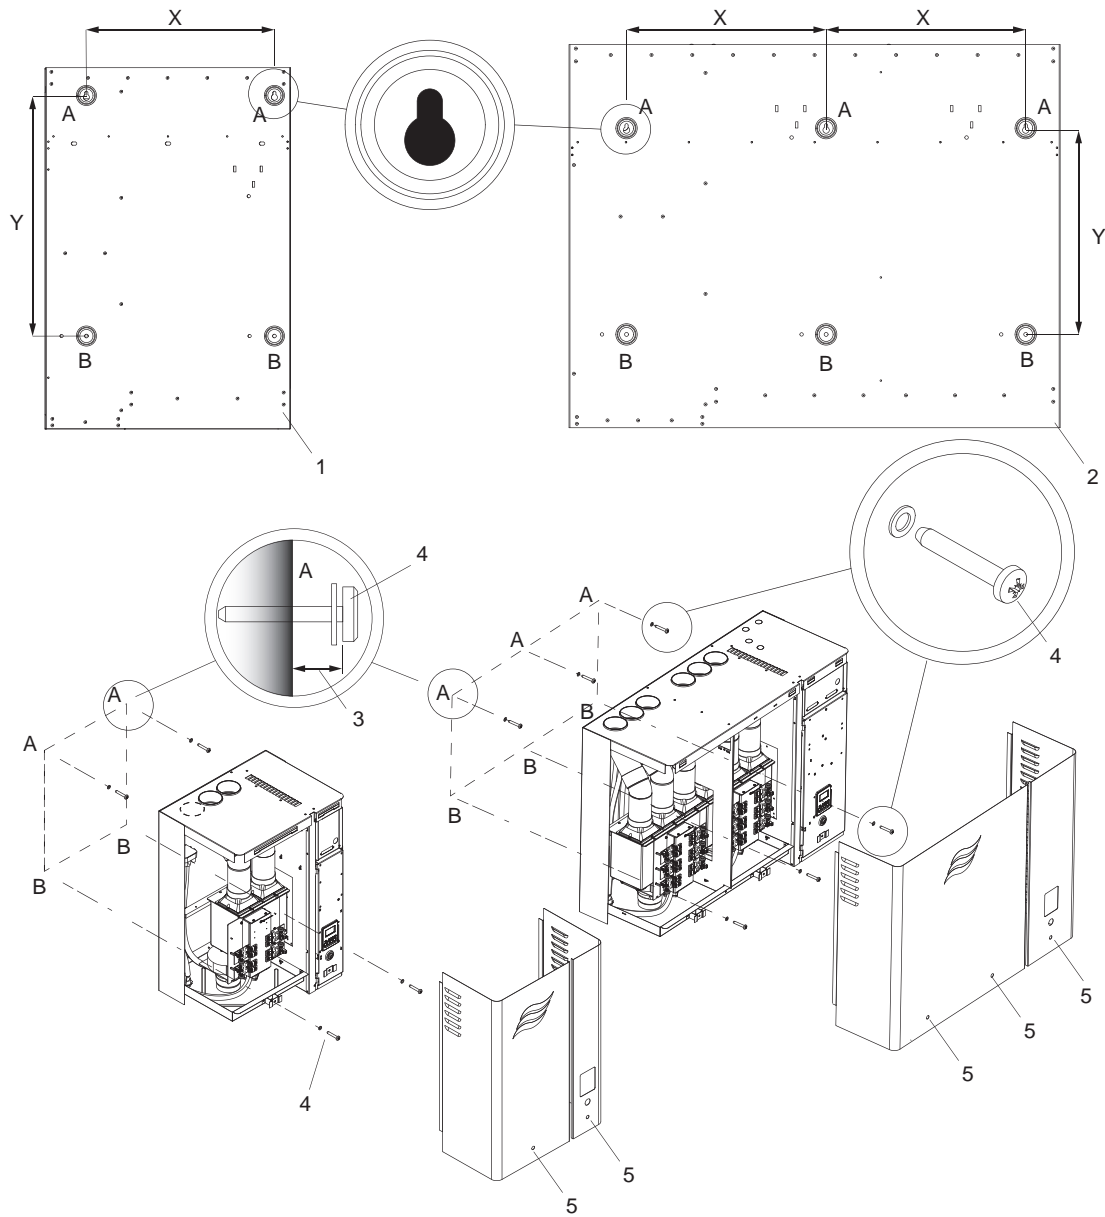

Figure 9 - Lag Bolt Hole Locations for Medium and Large Condair US
2. Use a level and mark points A and B for the lag bolts. Refer to Figure 9 on the previous page.